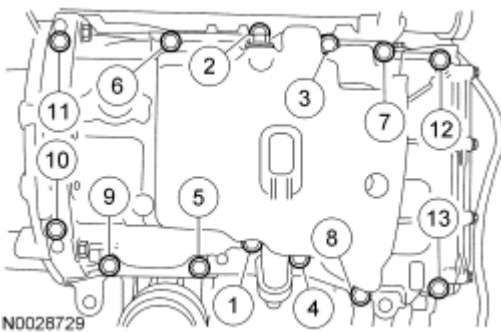

Fig. 116: Identifying Tightening Sequence Of Oil Pan Bolts
5. Tighten the oil pan bolts in the sequence shown in **Fig. 116**.